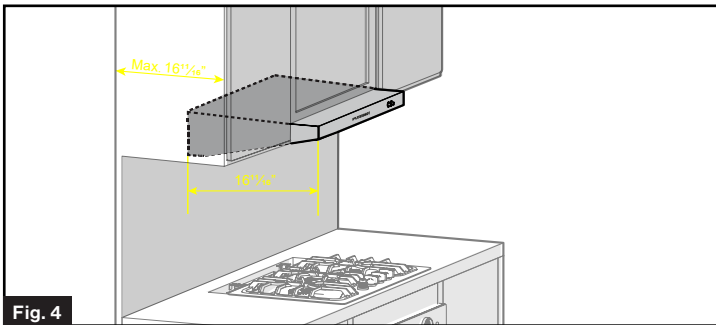

Fig. 4
**NOTE:** The minimum vertical distance to combustible material above the range cooking top is 19½ inches when installed with a range hood, provided the overhead construction does not extend 16½ inches from the rear wall. (Fig. 4) This range hood will work with cooktops and ranges with input rating up to 22,500 BTU.